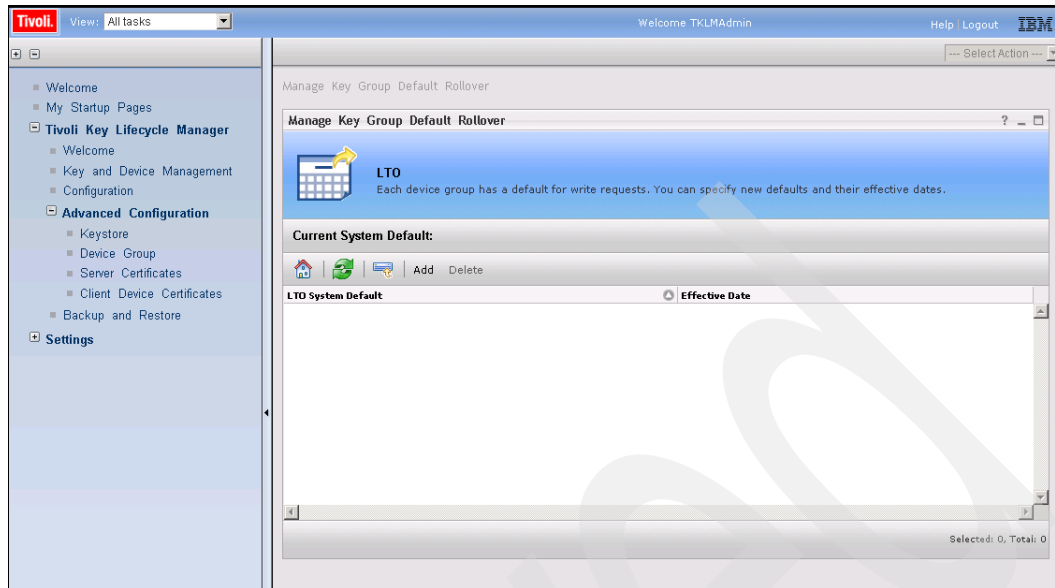

Figure 9-67 Manage key group default rollover
3. Click **Add** to schedule an LTO group rollover (Figure 9-67).